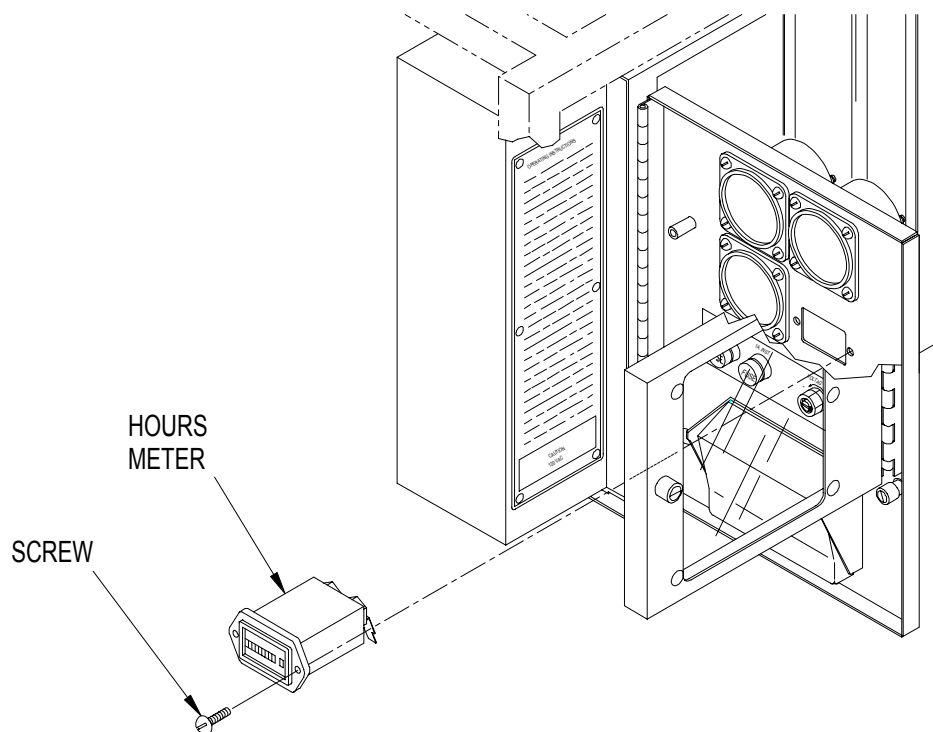

Figure 4-26. HOURS Meter
- (1) Shut down generator set.
- (2) Release instrument panel by turning fastener, open instrument panel slowly.
- (3) Tag and disconnect HOURS meter (Figure 4-26) electrical leads.
- (4) Release instrument cover by turning fastener, open instrument cover.
- (5) Remove screws.
- (6) Remove HOURS meter from instrument panel.
- (1) Insert HOURS meter (Figure 4-26) into instrument panel.
- (2) Install screws.
- (3) Connect electrical leads and remove tags.
- (4) Close and secure instrument panel and instrument cover.